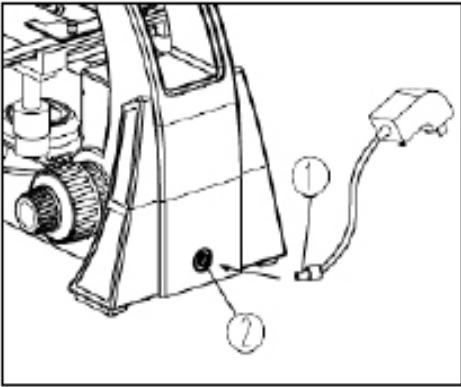

Fig. 6
2. Insert the plug of the external power adapter (1) into the power socket (2) of the microscope, then insert power adapter into wall socket. (See Fig. 6).